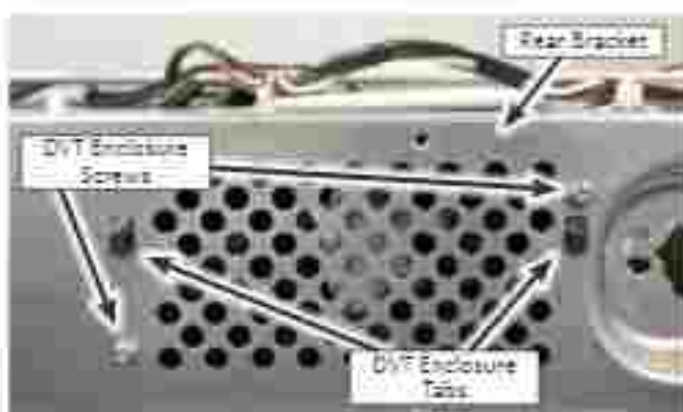

Figure 3
7. Using a T20 Torx driver, remove the two (2) screws securing the DVT enclosure to the rear bracket (see Figure 3).